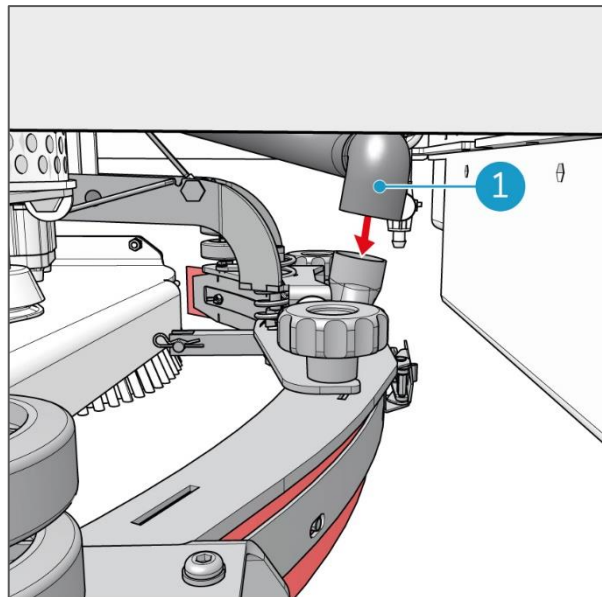

Figure 35
6. Push the vacuum hose onto the hose connector of the squeegee (Figure 35, pos 1).